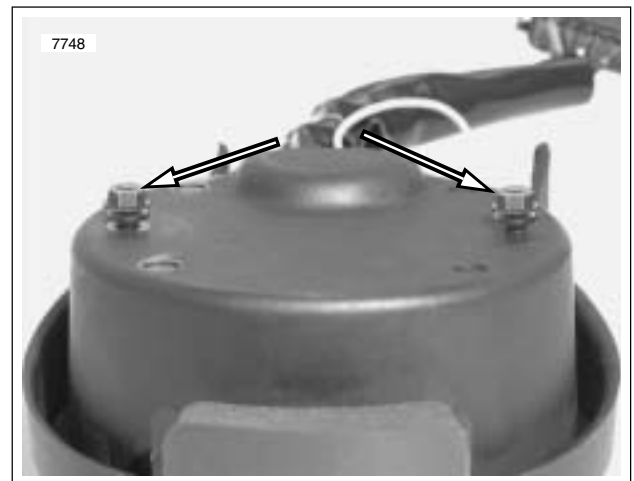

Figure 7-81. Speedometer Fasteners
- a. See Figure 7-81. Loosen screw until head is approximately 0.125 in. (3.2 mm) above the back surface of the dash.